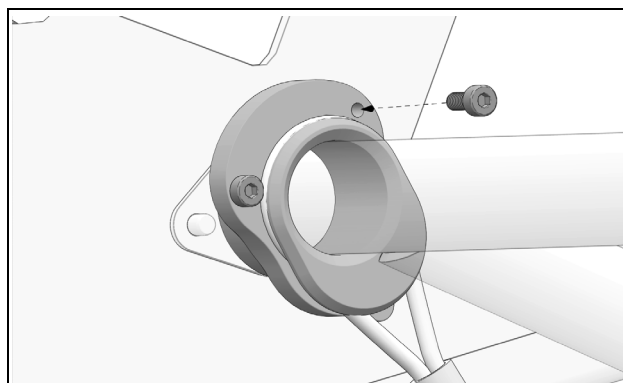

Figure 20
- Re-install bolt that was removed to complete adjustment. Figure 20.